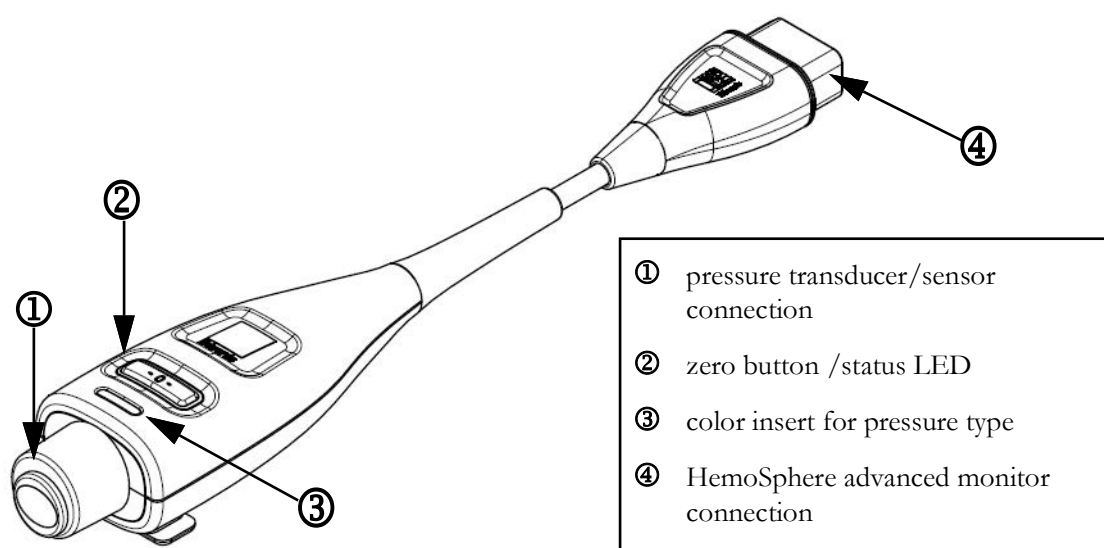

Figure 10-1 HemoSphere pressure cable
The HemoSphere pressure cable is a reusable device that connects with the HemoSphere monitor on one end ④ and any approved single Edwards disposable pressure transducer (DPT) or sensor on the other end ①. See figure 10-1 on page 187. The HemoSphere pressure cable acquires and processes a single pressure signal from a compatible Edwards DPT, such as the TruWave DPT, or a FloTrac sensor. A FloTrac, FloTrac Jr or Acumen IQ sensor connects to an existing arterial catheter to provide minimally invasive hemodynamic parameters. A TruWave transducer can connect to any compatible pressure monitoring catheter to provide location based intravascular pressure. Refer to the directions for use provided with each catheter for specific instructions on catheter placement and use, and for relevant warnings, cautions and notes. The HemoSphere pressure cable can be monitored through two technology monitoring modes based on the paired sensor/transducer: **FloTrac**, **FloTrac Jr**, or **Acumen IQ** sensor monitoring mode or **Swan-Ganz** catheter monitoring mode. The monitoring mode appears on the top of the navigation bar (see figure 5-2 on page 97). The appearance and connection points for the HemoSphere pressure cable are shown in figure 10-1.
Pressure Type Color Insert. If desired, the appropriate color insert can be used on the pressure cable to indicate the monitored pressure type. See ③ in figure 10-1 below. The colors are as follows:
- Red for arterial pressure (AP)
- Green for cardiac output (CO)
- 7 Use a straight in or out motion to connect the green connector of the primed FloTrac/FloTrac Jr sensor. The pressure cable LED that surrounds the zero button (see ② in figure 10-1) will flash green indicating that the pressure sensor is detected. A yellow light indicates a fault condition. If this occurs refer to the status bar for specific fault condition details.
Press the physical zero button  directly on the pressure cable and hold for three seconds (see figure 10-1).